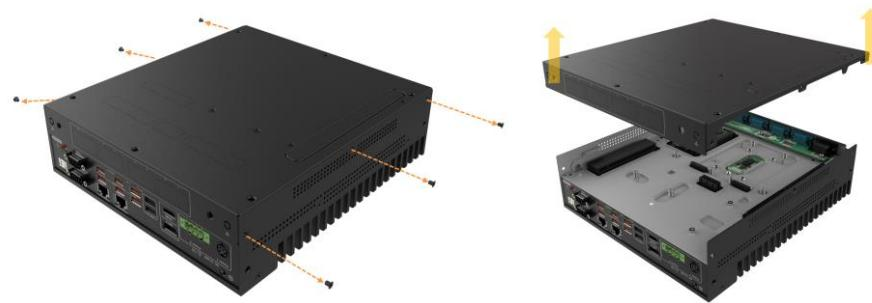

Figure 3-1: Remove the Cover
- Step 1:** Remove the 6 screws on the side, and then remove the top cover (Figure 3-1).